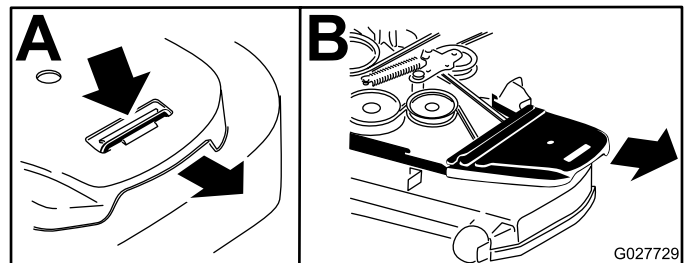

Figure 92
4. Push the tab down and remove the belt cover (Figure 92).